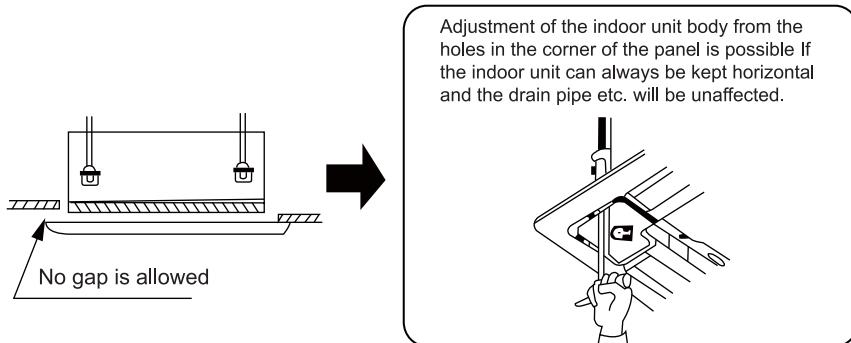

Fig.36
(3). If gap still exists between ceiling and decoration panel after tightening the screws, readjust the height of the indoor unit. (Fig.36)